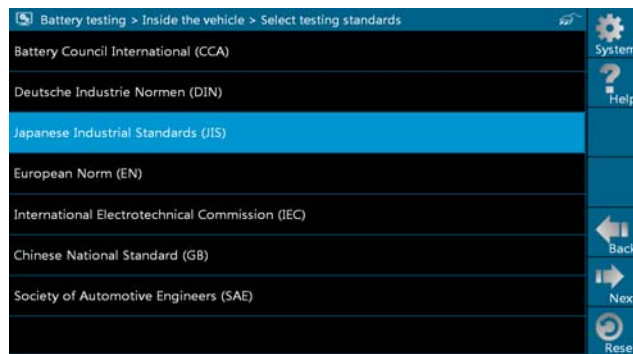

Fig. 3-5
5. Follow the on-screen instructions to turn off the headlamp and click [OK], the system will continue the testing. Click [Next], it will go into Selecting testing standard screen. See Fig. 3-5